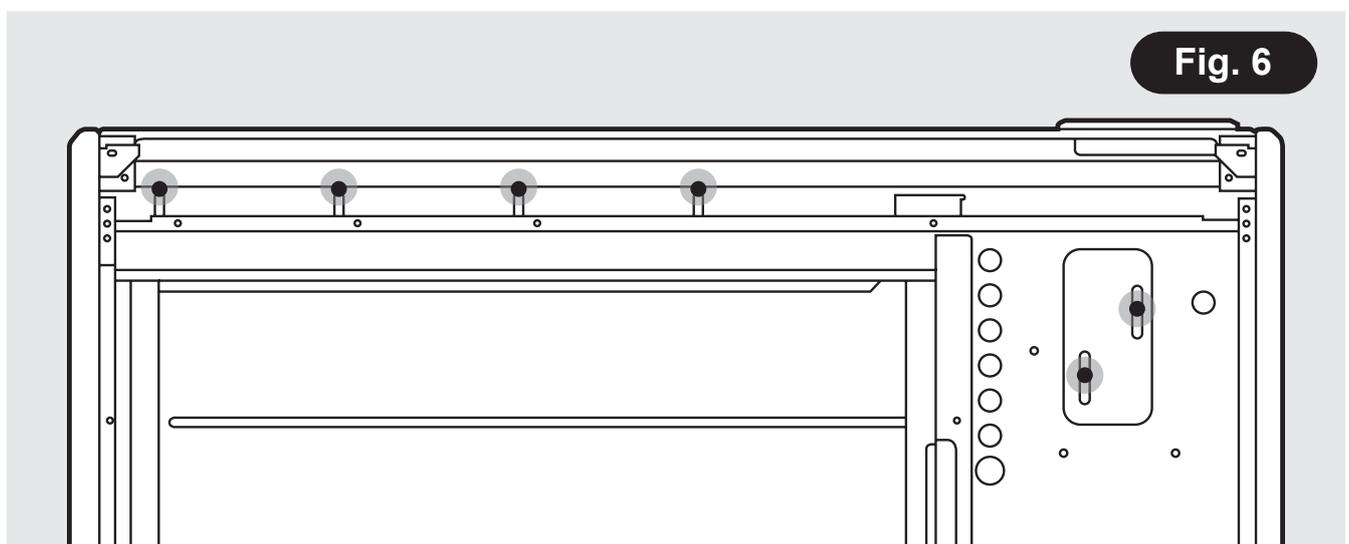

Fig. 6
6. Six fixing positions must be selected for models DESE100, DESE125, DESE150 and at least 4 fixing positions for models DESE050 and DESE070. **Fig. 6.**
Ensure the screws retaining the heater to the wall are fully tightened, once the energy retention cells are fully loaded. **(Fig. 6)**